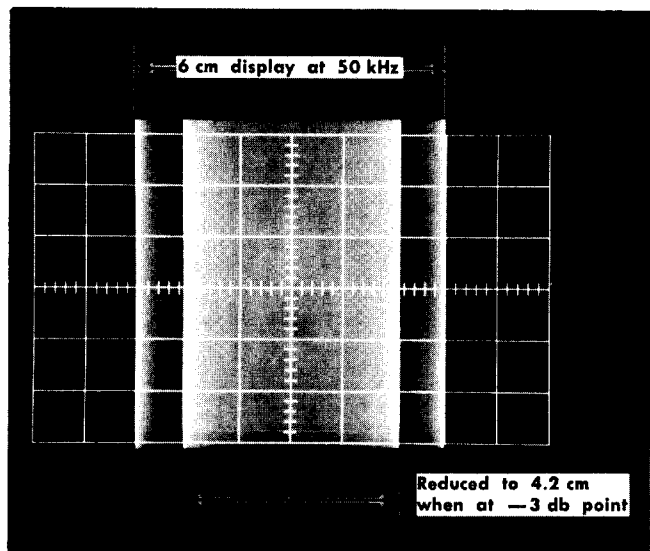

Fig. 5-11. Typical CRT display when checking horizontal amplifier frequency response.
- Check—Horizontal amplitude of the display must be 4.2 cm or more (see Fig 5-11).